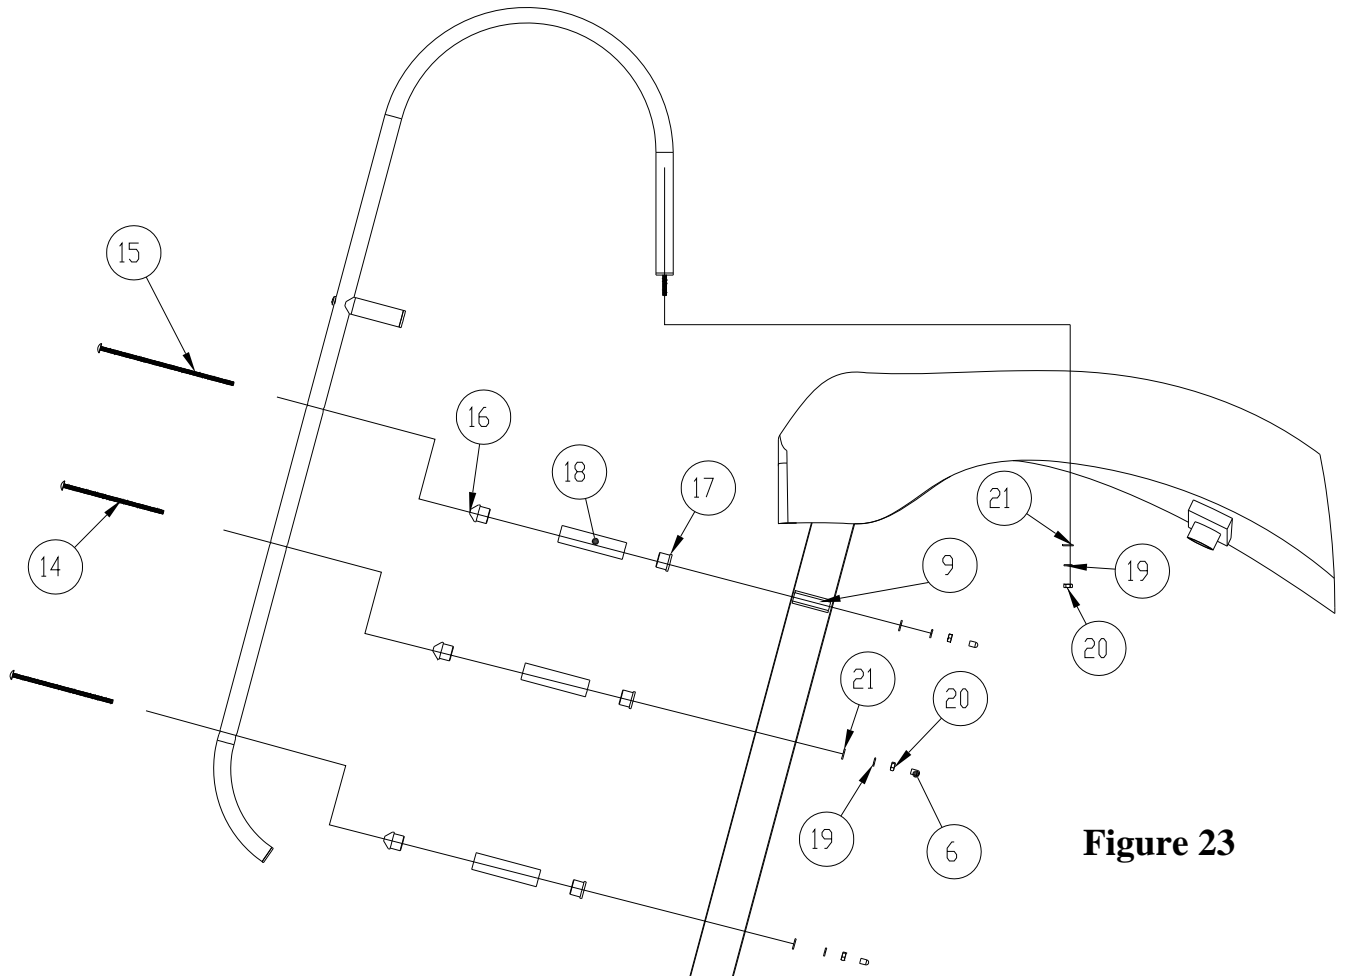
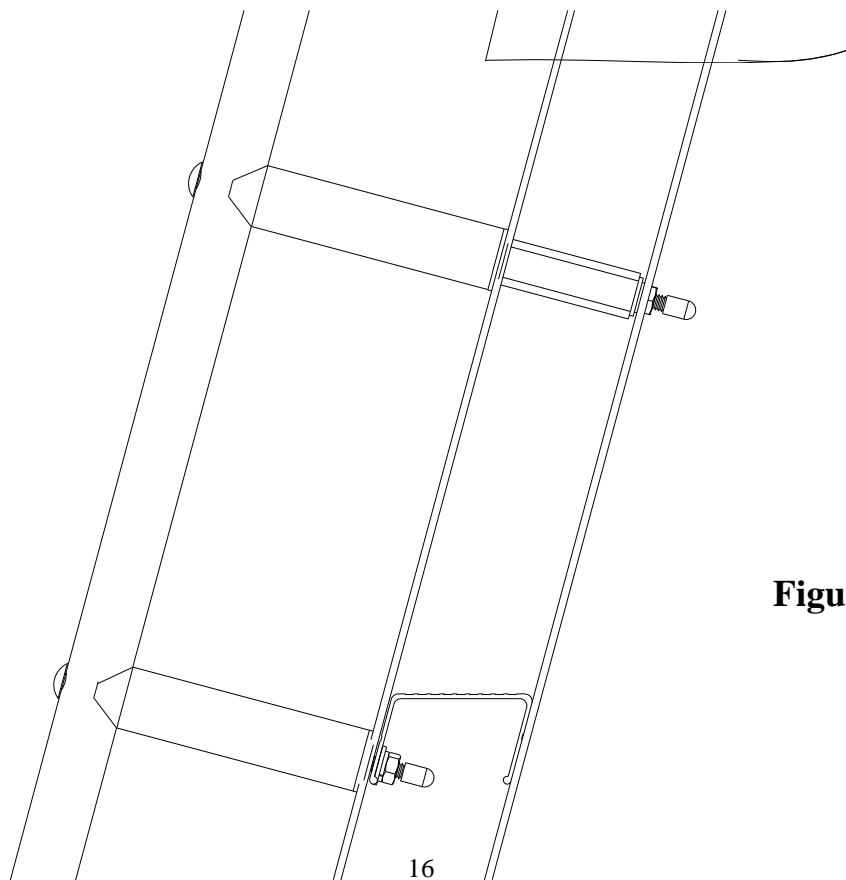

Figure 23
Figure 24
- 23)** Disassemble each handrail as shown in Figure 23. Insert the two handrails into the holes on the top of the slide runway rails, and secure each using a (#21) Flat Washer, a (#19) Lock Washer, and a (#20) Hex Nut.
- 24)** Starting with the top handrail spacer, align the top hole in the handrail with the top hole in the ladder side rail. Next, assemble the handrail spacer parts (#16), (#17) and (#18) in the order shown in Figure 23 and align it between the handrail and ladder top holes. Next, insert the (#15) 1/4-20 x 8" Carriage Bolt through the handrail and the handrail spacer parts. The (#9) Ladder spacer is to be placed in between the front and back sides of the ladder side rail such that the (#15) Carriage Bolt holds it in place after it is pushed completely through the ladder side rail, see Figure 24. Secure the (#15) Carriage bolt using a (#21) Flat Washer, a (#19) Lock Washer, and a (#20) Hex Nut in the order shown in Figure 23. Finally, place a (#6) Vinyl Bolt Cap over the exposed threaded end of the bolt.
- 25)** For the remaining two ladder spacers, align parts (#16), (#17) and (#18) between the hole in the handrail and the hole in the ladder as in step 24. Use a (#14) 1/4-20 x 6" Carriage Bolt along with a (#21) Flat Washer, a (#19) Lock Washer, and a (#20) Hex Nut to fasten the parts together as shown in Figures 23 and 24. Again, place a (#6) Vinyl Bolt Cap over the exposed threaded ends of the bolts.